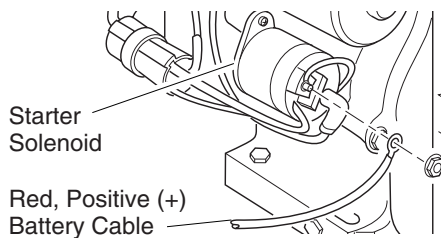

Figure 7 - Connecting Red, Positive (+) Battery Cable to Engine Starter Solenoid
1. Attach the red, positive (+) battery cable to the starter solenoid on engine (see Figure 7). The starter solenoid is located directly above the starter.